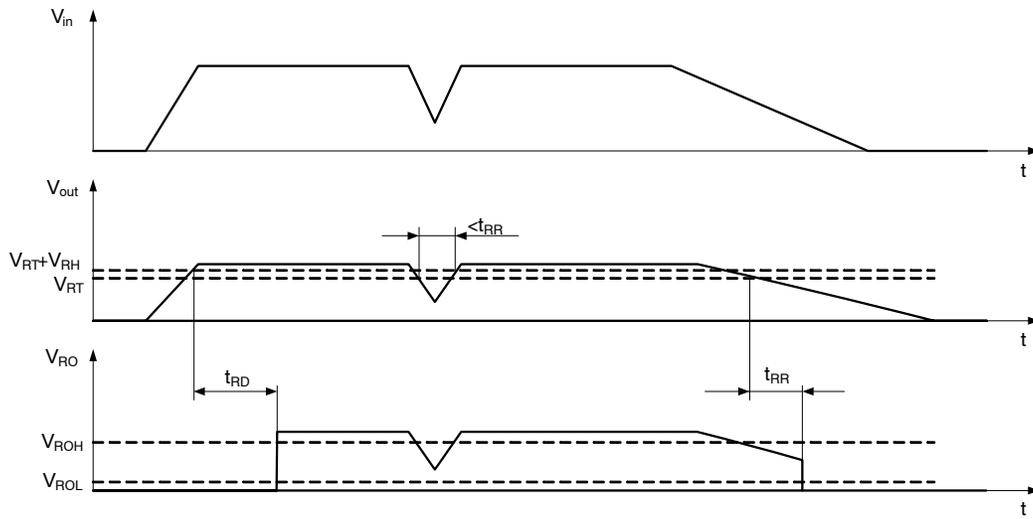

Figure 28. Reset Function and Timing Diagram
A reset signal is provided on the Reset Output (RO) pin to provide feedback to the microprocessor of an out of regulation condition. The timing diagram of reset function is shown in Figure 28. This is in the form of a logic signal on RO. Output voltage conditions below the RESET threshold cause RO to go low. The RO integrity is maintained down to Vout = 1.0 V. The Reset Output (RO) circuitry includes internal pull-up connected to the output (Vout) No external pull-up is necessary.